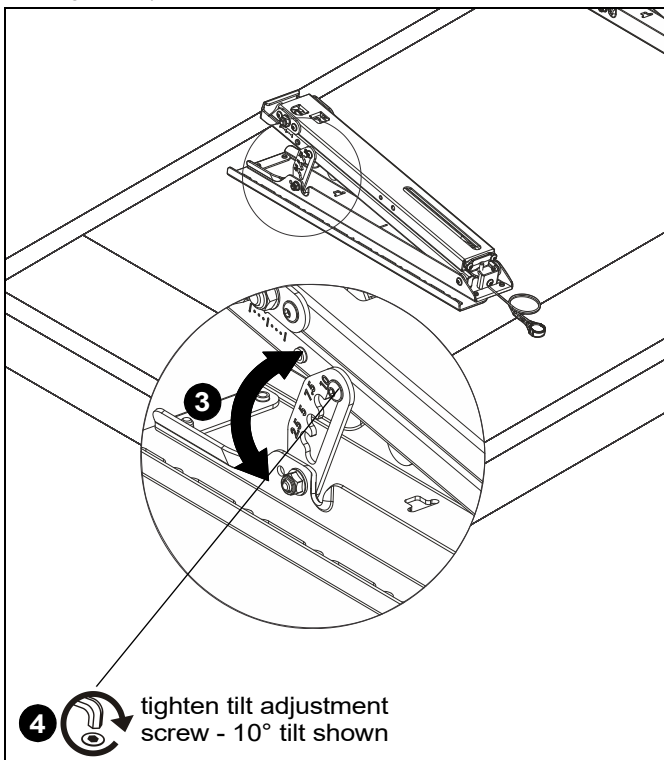

Figure 25
3. Adjust tilt to desired tilt angle. The tilt may be adjusted in 2.5" increments. (See Figure 25)
4. Tighten tilt adjustment screws to lock tilt position. (See Figure 25)